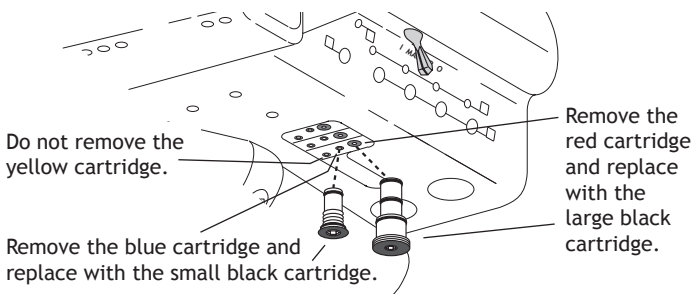

Figure 9. Handpiece Dry Block Conversion
3. Use a 3/32" hex key to remove the large red cartridge from the control block. Install the large black cartridge from the dry block conversion kit into the control block (see Figure 9).